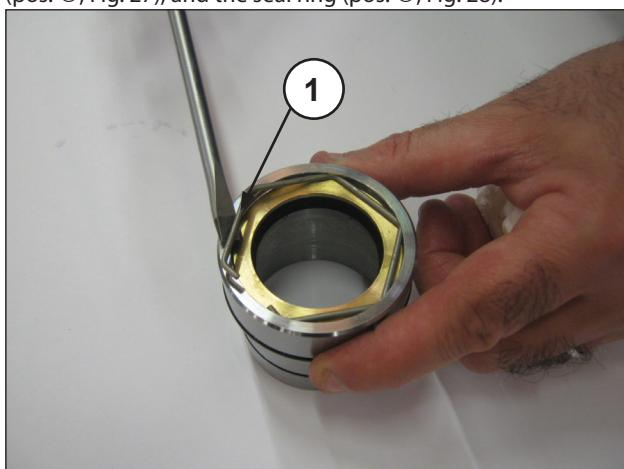
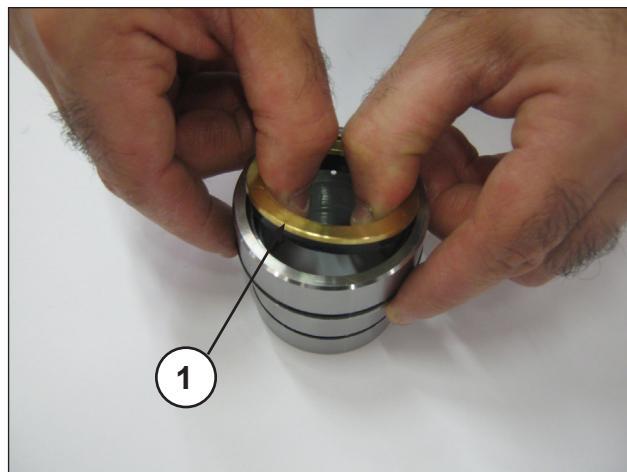

Fig. 27
Fig. 28
To remove the low pressure seal, remove the retaining ring (pos. ①, Fig. 27), and the seal ring (pos. ①, Fig. 28).